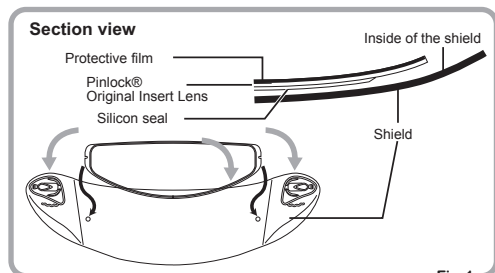

Fig. 1
- ① Apply the silicon seal side of the Pinlock® Original Insert Lens on the inside of the shield, without peeling off the protective film on the lens. At the time, apply the Pinlock® Original Insert Lens on the inside of the shield by clicking it into the eccentric pins. (Fig 1 and 2)